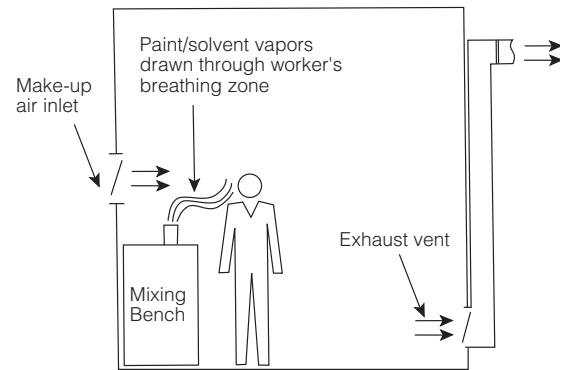

Figure 1. Poor Ventilation Design
**Scenario:** An exhaust fan is installed in a paint mixing room at floor level on the wall just opposite from the work bench. Make-up air vents are located about 2 feet above the surface of the work bench, directly in front of the workers' faces. (See Figure 1.)